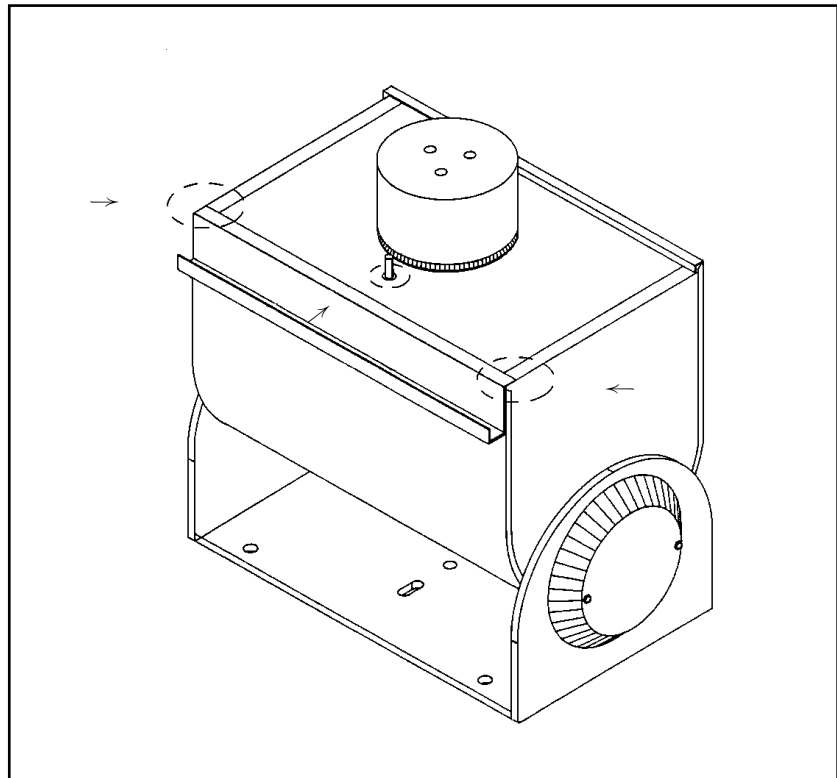

Figure 2. Sealant Locations
4. Reinstall the cover. If the pan/tilt is installed outdoors in an inverted position, apply RTV silicone sealant as shown in Figure 2.